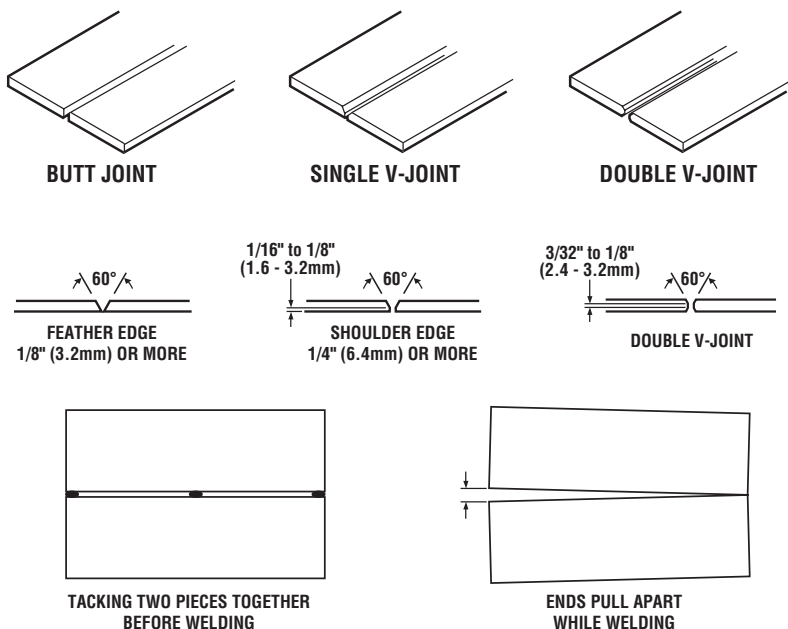
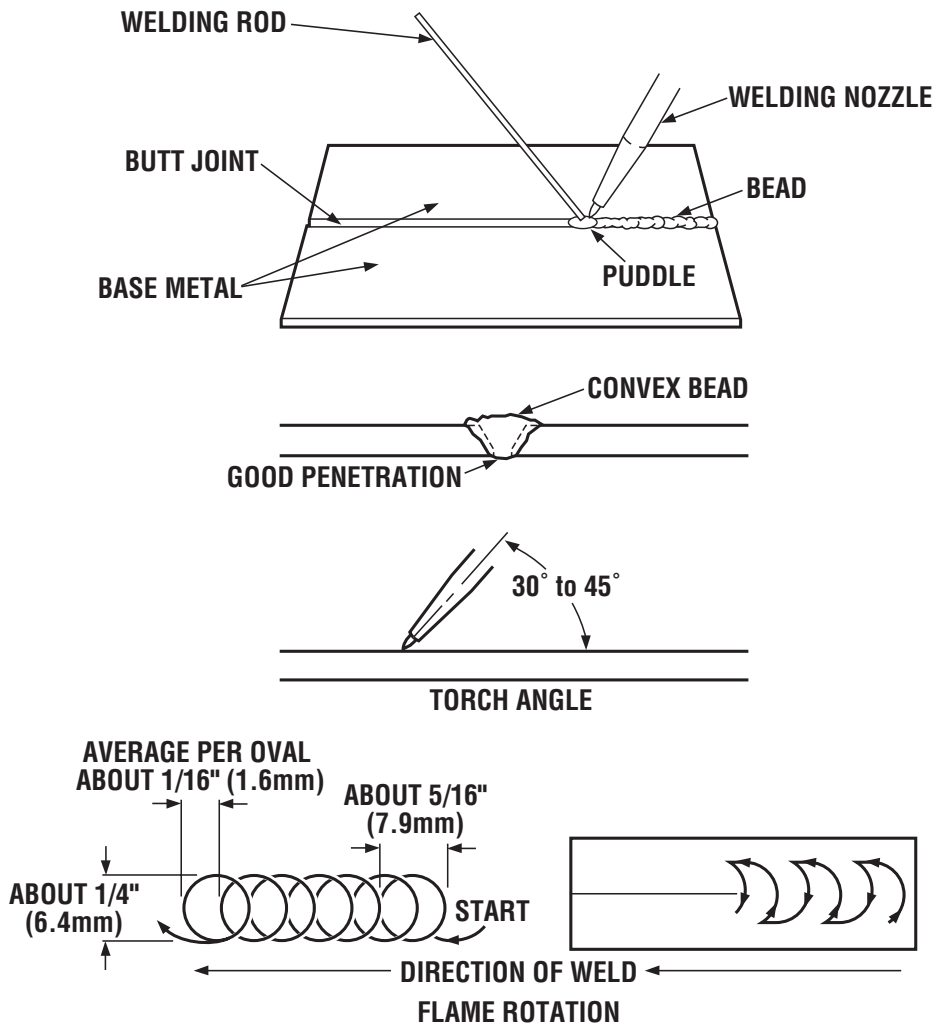

Figure 13: Preparing the Metal
Figure 15: Starting and Finishing a Weld
1. Check the thickness of the metals to be welded. Prepare the metal as described in Figure 13. Refer to the welding tip selection chart in Section 9 to determine the tip size that is required and the regulator pressures for the job.
2. Some thicker metals may require additional preparation. Base metals 1/8" (3.2mm) or less do not require beveling (see Figure 13 and Figure 15).
1. Begin by tacking the ends of the two pieces of metal together before welding. Longer pieces may need to be tacked every few inches along the joint (see Figure 13).
2. Hold the torch nozzle at an angle of approximately 45° to the joint (see Figure 15).